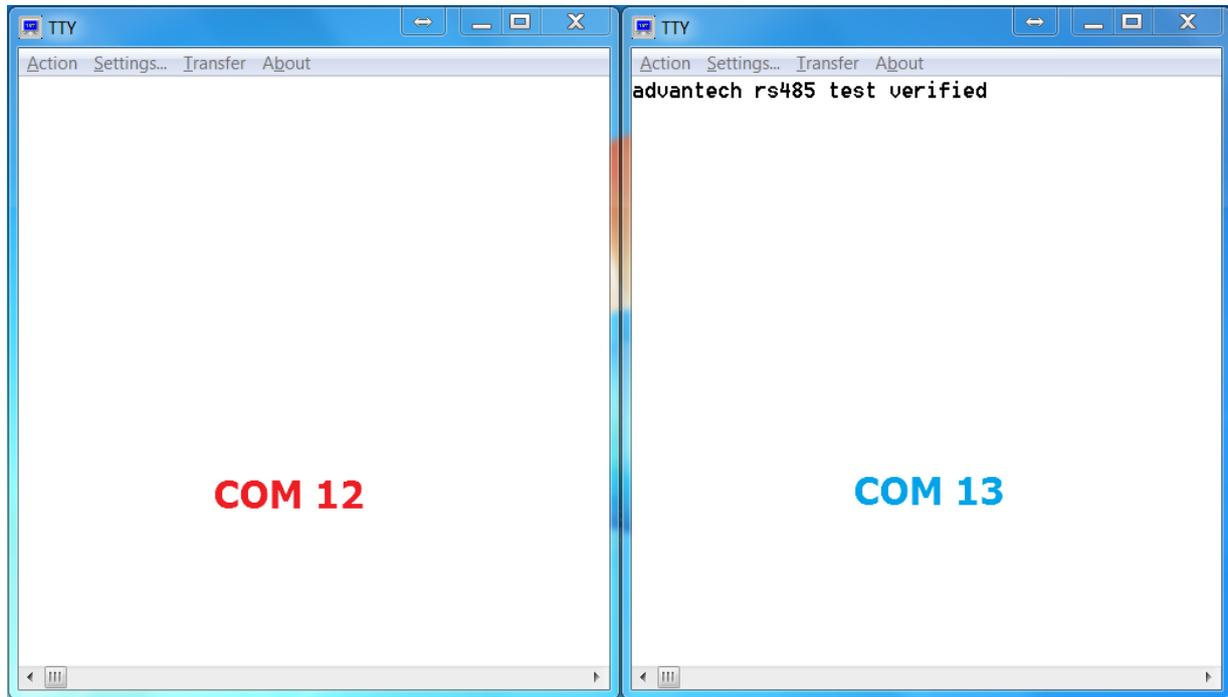

Figure 5. Type words on COM 12 windows
5. User can type word or number with computer keyboard on COM12 widows, and receive data will show up on COM13 windows; Please make sure those two way can receive data (From **COM12** to **COM13**; From **COM13** to **COM12**) as Figure 5 & 6, then that is a successful loop back test with two RS-485 com ports.